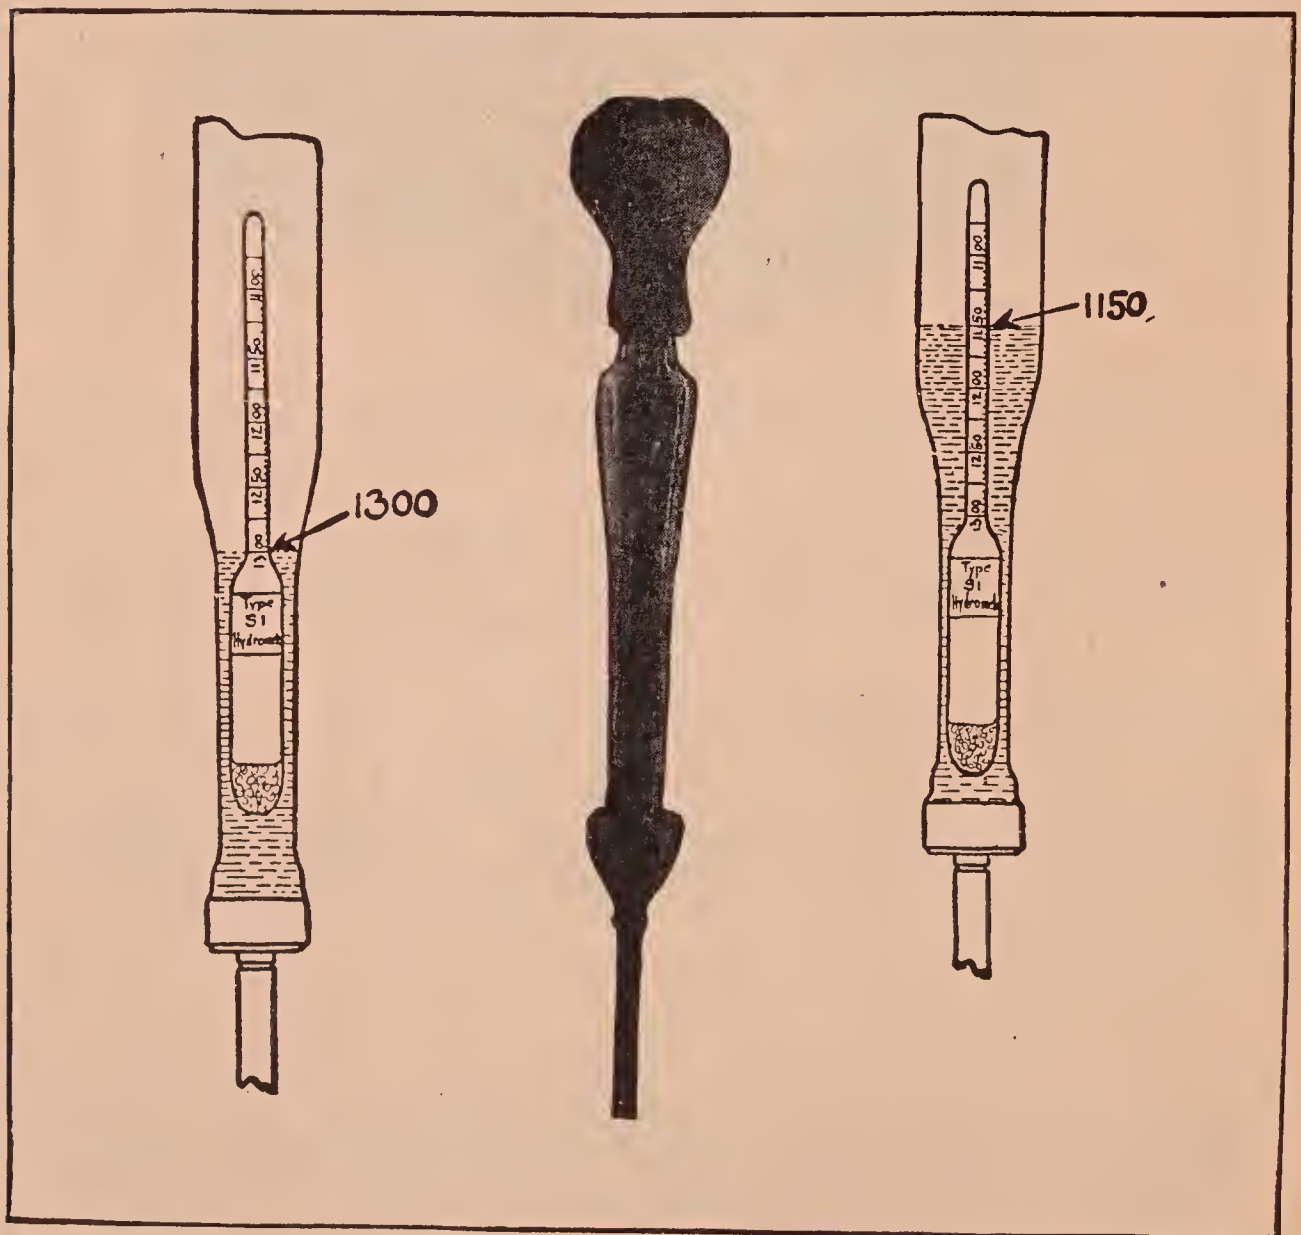

Fig. 53. Battery Hydrometer
3. Release the bulb until sufficient solution is drawn from the cell into the hydrometer tube to cause the hydrometer float to rise (see fig. 53);